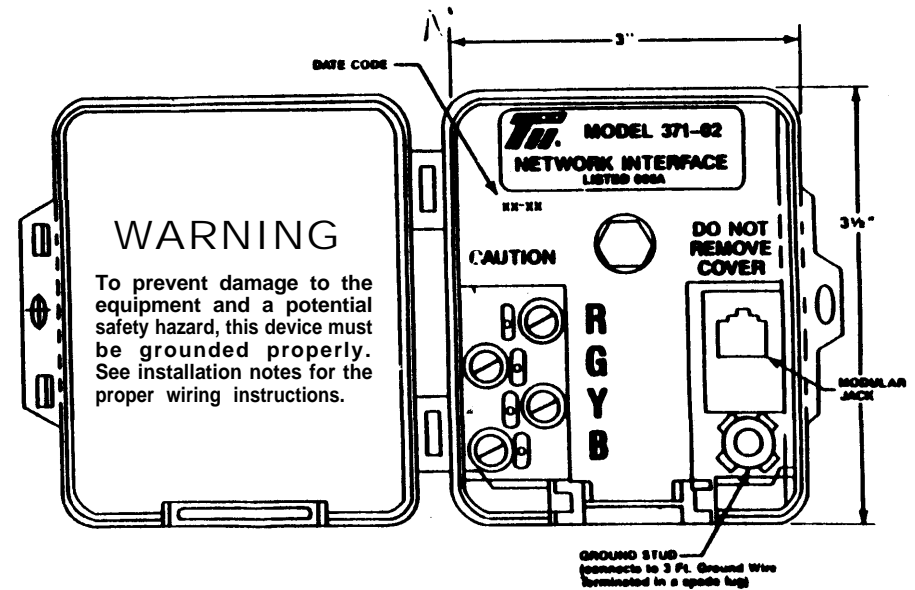

Figure 2B
- The IROB telephone's secondary protector should be connected to the ground stud of the primary protector (located at the entrance of the building containing the IROB telephone). Another acceptable grounding point for this secondary protector, is the green wire ground at an AC outlet located near the IROB telephone. Connect a 12 AWG insulated copper wire from the secondary protector's ground stud (Figure 2B) to the chosen grounding point.
- The R and G screw terminals on the secondary protector (Figure 2B) are for the voice pair wiring, and the Y and B screw terminals are for the data pair wiring. Connect the voice pair and data pair wiring between the secondary and primary protectors, in each building. Reverse the data pair wires at the Y and B screw terminals of the IROB telephone's secondary protector. This preserves the polarity of the data signal. (The voice pair does not need to be reversed, since it is not polarity sensitive.)